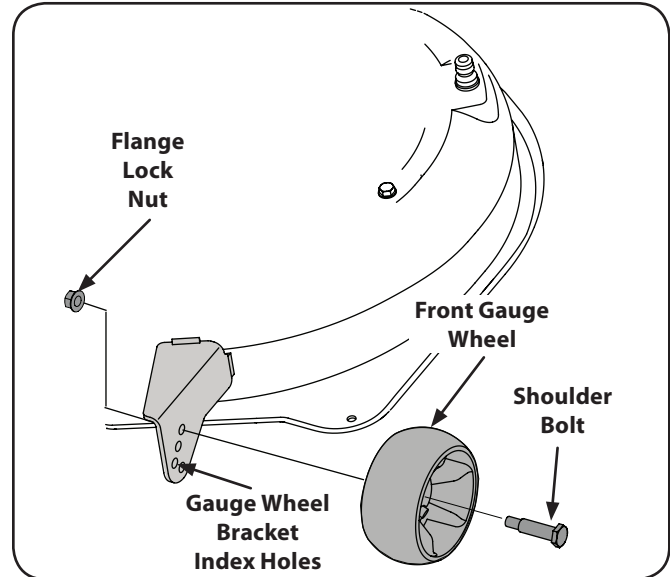

Figure 6-7
3. Remove the flange lock nut and shoulder bolt securing one of the front ball wheels to the front index bracket. Reposition the ball wheel to align with the one of five index holes that places the wheel  $\frac{1}{4}$ " to  $\frac{1}{2}$ " above the ground. Secure the ball wheel to the index bracket with the shoulder bolt and flange lock nut. Note the index hole used and secure the other ball wheel in the same position. See Fig. 6-7.